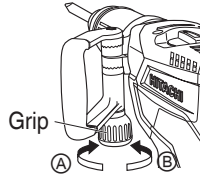

Fig. 6
(1) Loosen the handle by turning the grip in the direction of (A) as shown in Fig. 6.